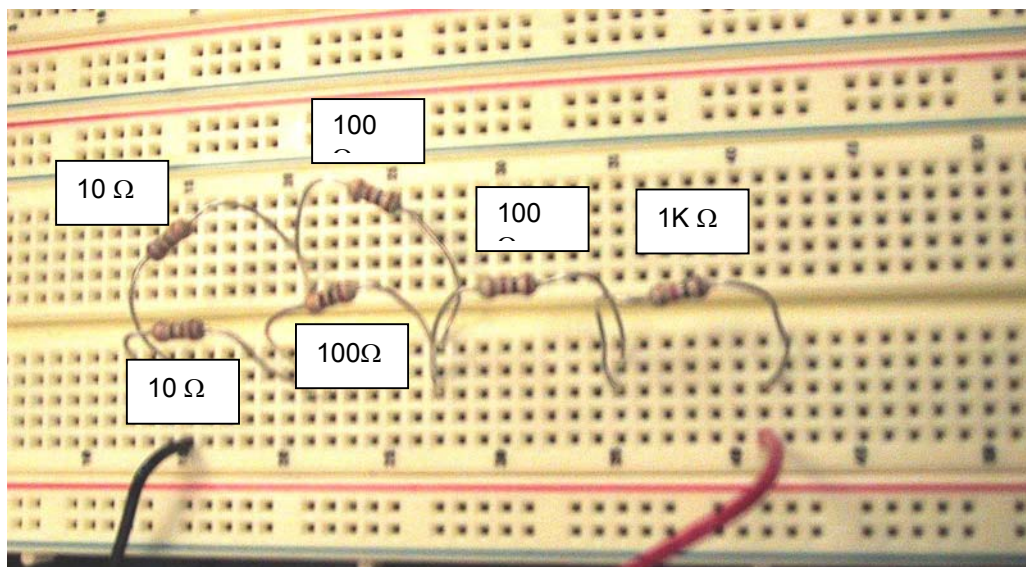

FIGURE 6 – SECOND CIRCUIT
- 12) Construct the circuit shown in Figure 6.